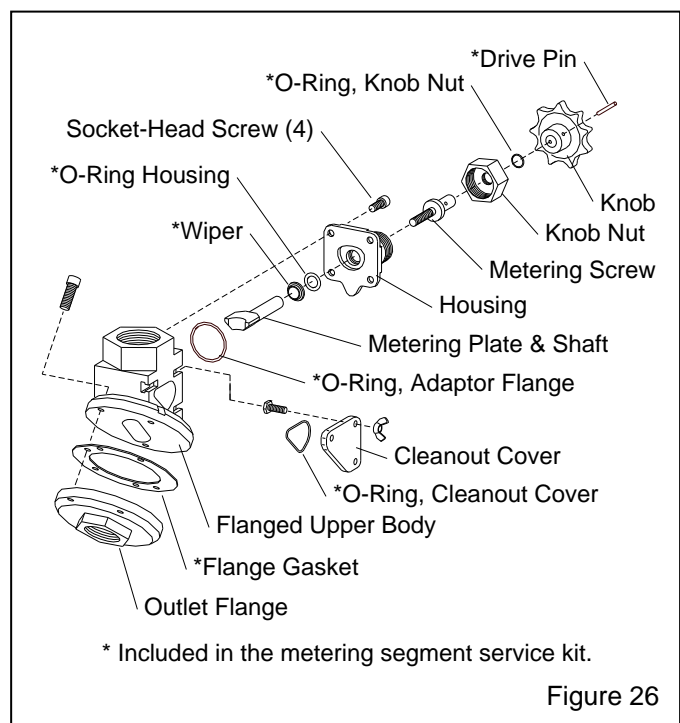

Figure 26
6.6 Manual Quantum Metering Valve, Figure 26
6.6.14 Place a new O-ring and wiper seal in the housing, as shown in Figure 26. The small side of the wiper seal faces away from the O-ring. A generous amount of silicone-based lubricant eases installation.